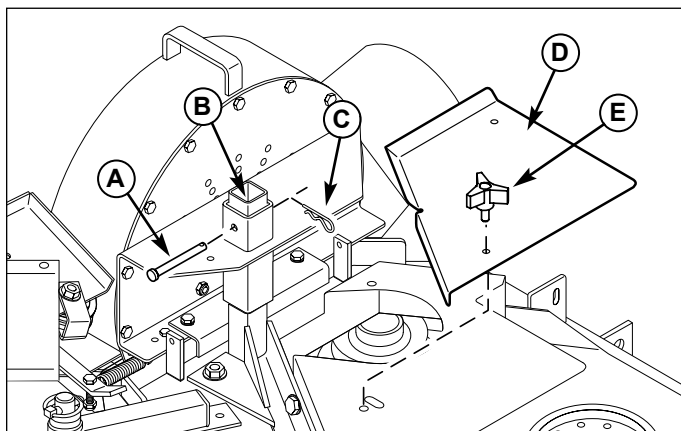

Figure 32. Install Belt Shield & Clevis Pin
4. Install the 3/8" x 4" clevis pin (A, Figure 32) and hair pin clip (C) as shown.
5. Install the plastic cap (B) in the end of the blower mount bar.
8. Install the deck belt shield (D) and secure with the plastic knobs (E).